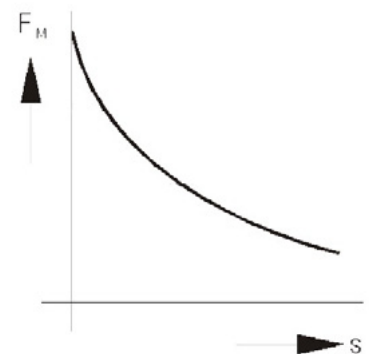

Fig. 2 Force vs. stroke characteristic
- increasing force characteristic (Fig.2)